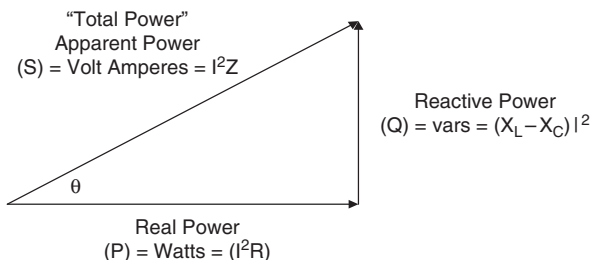

Figure 1. Power Factor Triangle (Lagging)
Power factor (pf) is defined as the ratio of the real power (P) to apparent power (S), or the cosine (for pure sine wave for both current and voltage) that represents the phase angle between the current and voltage waveforms (see Figure 1). The power factor can vary between 0 and 1, and can be either inductive (lagging, pointing up) or capacitive (leading, pointing down). In order to reduce an inductive lag, capacitors are added until pf equals 1. When the current and voltage waveforms are in phase, the power factor is 1 ( $\cos(0^\circ) = 1$ ). The whole purpose of making the power factor equal to one is to make the circuit look purely resistive (apparent power equal to real power).
Real power (watts) produces real work; this is the energy transfer component (example electricity-to-motor rpm). Reactive power is the power required to produce the magnetic fields (lost power) to enable the real work to be done, where apparent power is considered the total power that the power company supplies, as shown in Figure 1. This total power is the power supplied through the power mains to produce the required amount of real power.